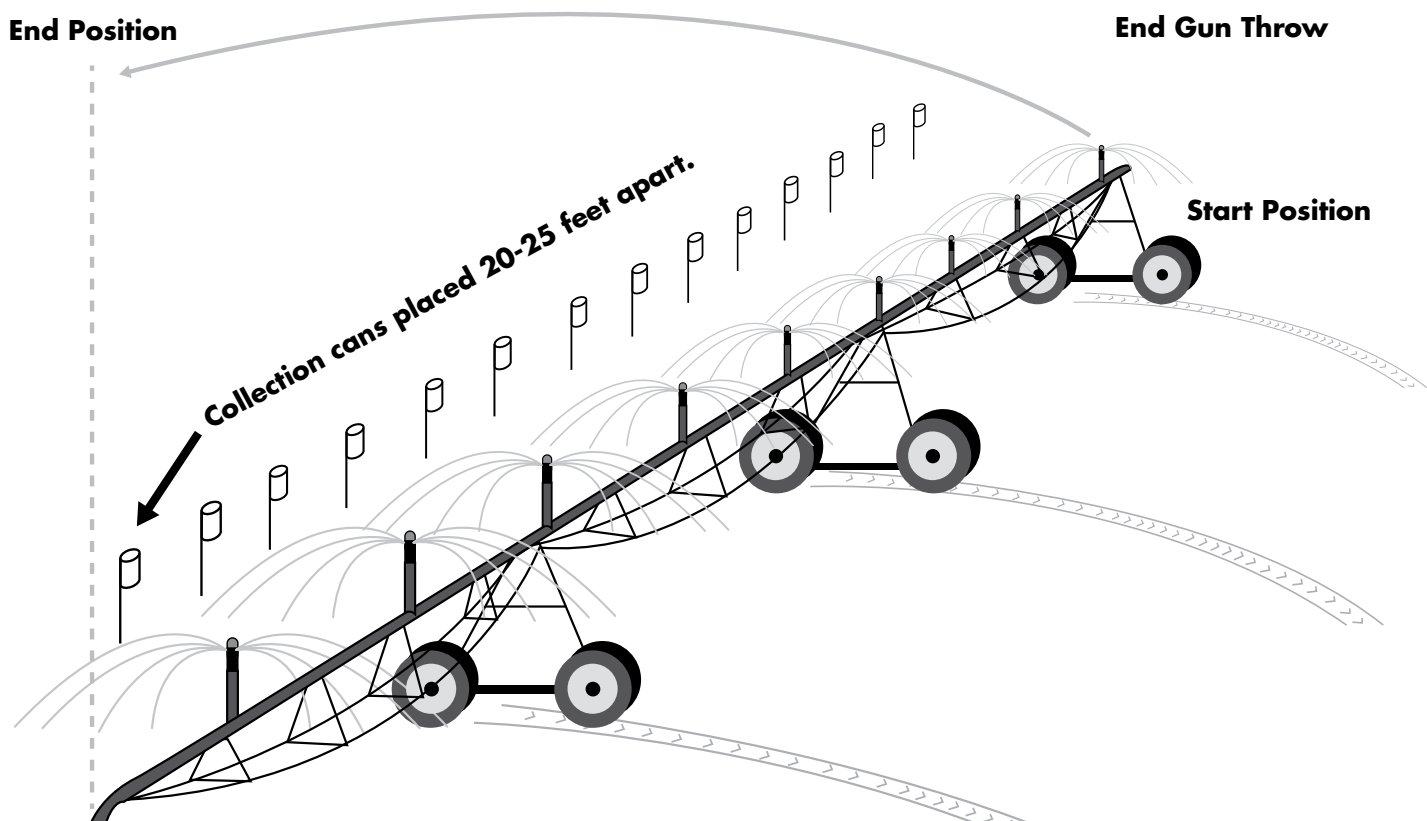

Figure 1. Placement of collection cups for calibrating a center pivot system.
4. Place collection cups in a row, 20–25 feet apart, as shown in Figure 1. Initial placement of cups should be outside the Wetted Diameter of the sprinkler/nozzle and should be located in the direction of travel. Cups should be placed in a straight line parallel to the center pivot frame.